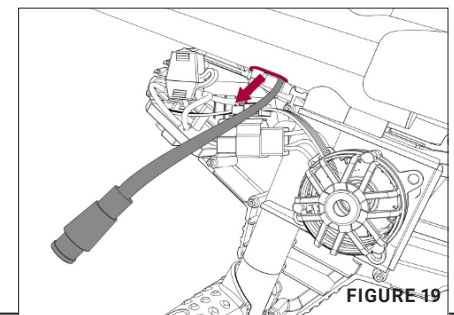

FIGURE 19
8. Run wire back through the frame tube and out the lower hole to reconnect. [Figure 19]